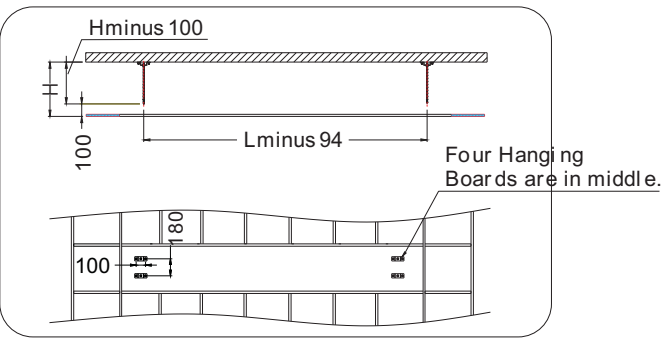
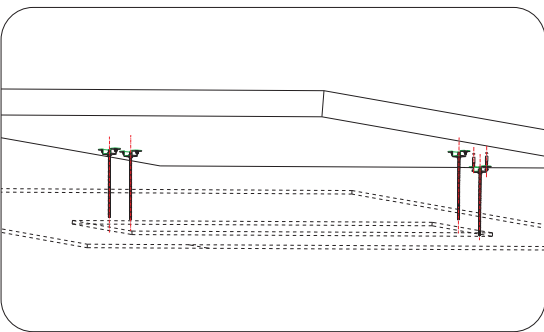

figure 4
figure 5
3.Please measure the security distance between hanging brackets (figure 4), and fix the hanging brackets on the ceiling using expansion screws (figure 5).